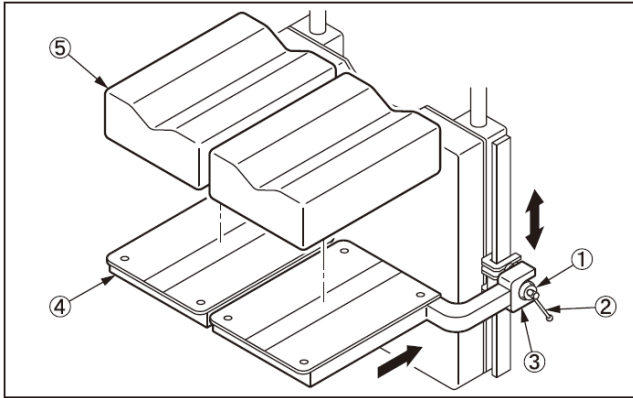
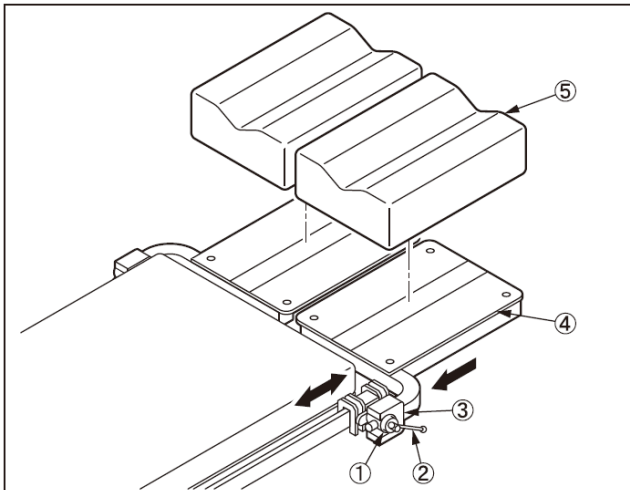
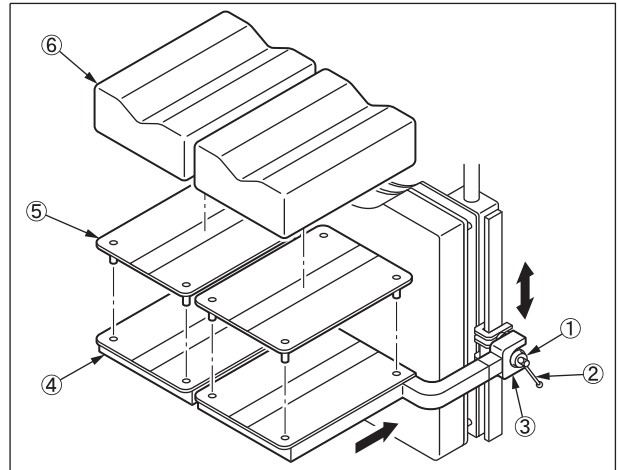
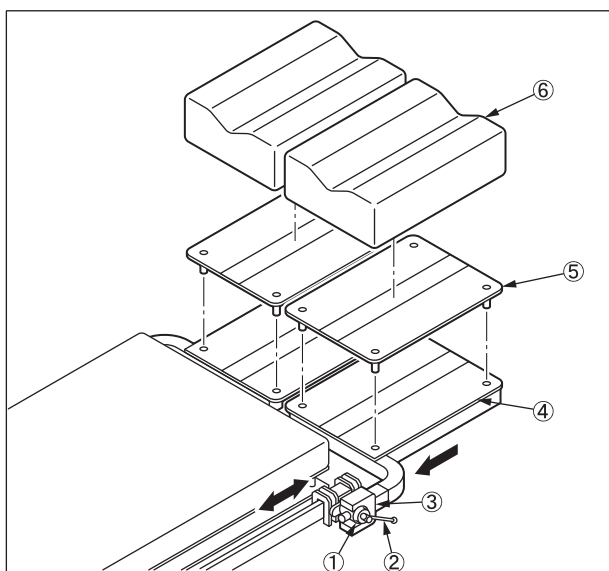

Fig.1-2
Fig.2-2
Fig.3-2
Fig.4-2
3. Do not ride or sit on the edge of the board ④ (shown in Fig.1-2, Fig. 2-2, Fig.3-2 and Fig. 4-2 of **Instructions for use**). Doing so may cause damage to the product and injury to patient or staff.